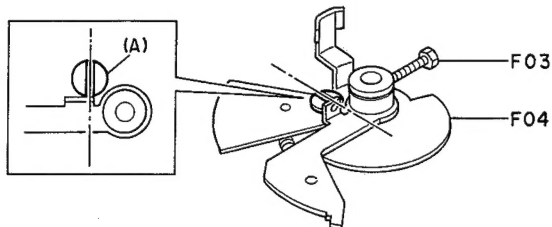

Fig. 4.3
- (1) Align the position of the eccentric screw (A) as shown in Fig. 4.3.